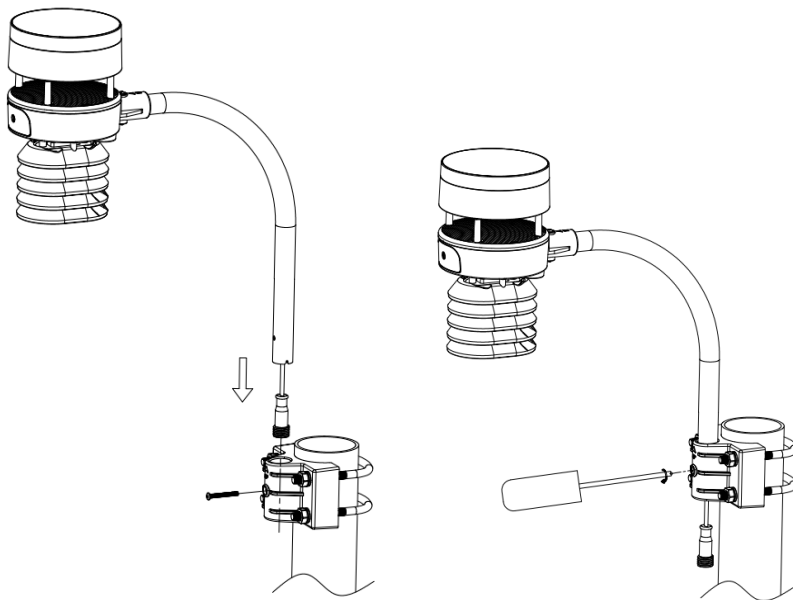

Figure 9: Sensor package mounting diagram 5-4
4. Insert the arm tube into the base as Figure 9. Be sure to line up the small hole in the arm with the holes in the base. Insert the machine screw through the holes in the base and arm. (if you don't need to power up the heater, you should keep the power cord terminal inside the mounting arm and this can make the installation looks neat and tidy. You may take it out when needed.)